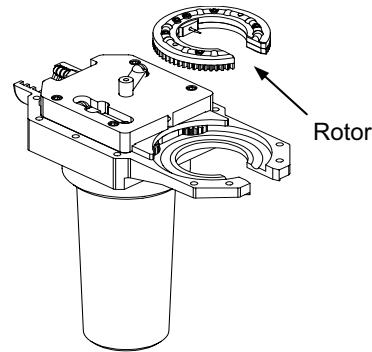

*Figure 31 Removing the Work Extension*
3. Remove the work extension screw with lock washer, and the work extension. Inspect the work extension for pitting, wear, or damage. See Figure 31.